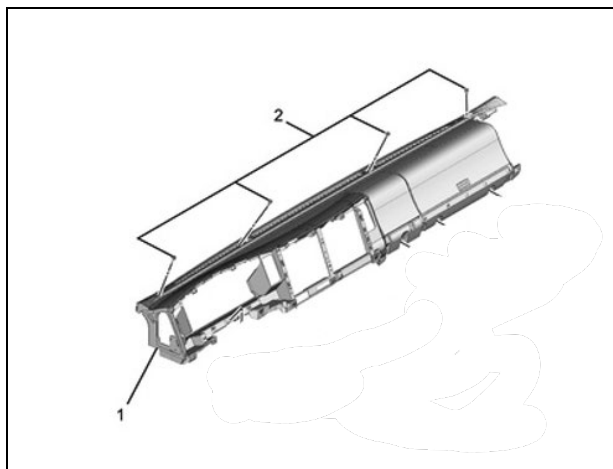

Figure 85
95. Install and torque the four (4) IP mounting bolts removed in Step 52. (See Figure 85.)